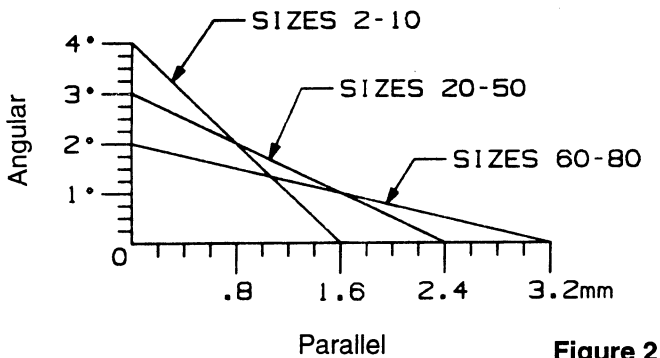

Figure 2
6. The hubs should be aligned according to equipment manufacturer's recommendations. If these recommendations are unknown, alignment should be as good as prudently possible and better than values shown in Figure 2 for allowable misalignments. Alignment may be done with lasers, dial indicators, or with a straight edge and calipers. The latter can be done as follows:
7. You must re-check the hubs to be certain both angular and parallel alignments are still within values given in Figure 2.